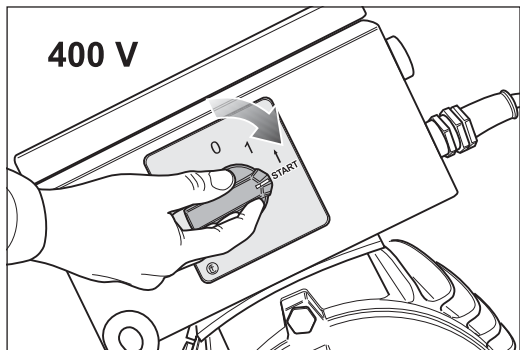
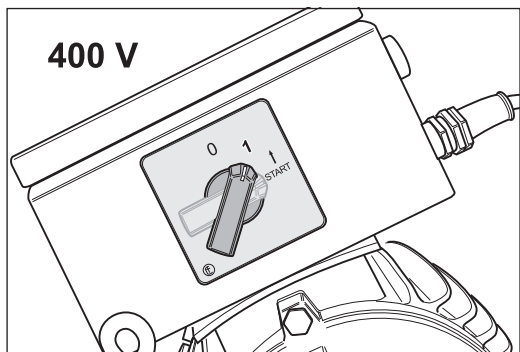

Fig. 15 To switch on the machine turn the switch button at the motor to position -START-.
Fig. 16 Release the switch button. The button turns automatically in position -1-.
- 2 To switch on the machine turn the switch button at the motor to position -START- (Fig. 15) and release the switch button after the motor has reached its full speed. The switch button will then automatically move to position -1- (Fig. 16).